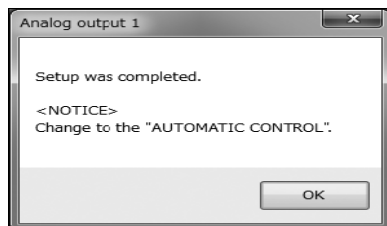

Fig.40
- ⑤ Click "OK" to change the settings to the inputted values, and then click the "OK" button in the displayed message box (Fig. 40) to complete the setting process.